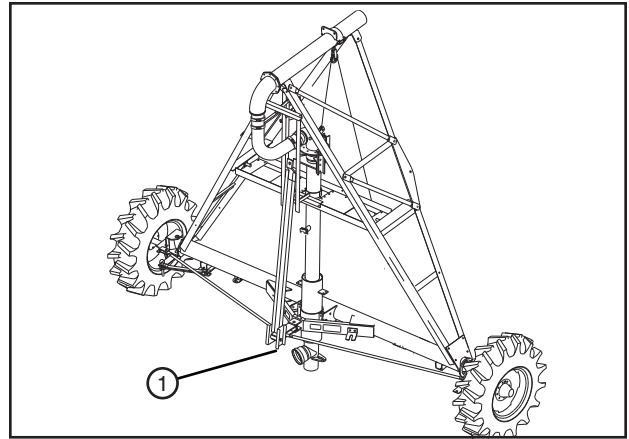

Figure 51-1 1. Riser Pipe
8. Disconnect the water supply line from riser pipe. See figure 51-1.